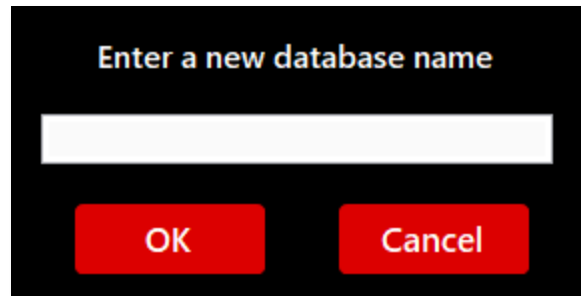

Figure 66 - Enter database name window
A prompt window will appear (Figure 66 - Enter database name window). You need to enter a new database name and click on **OK** to complete the database creation process. Clicking on the **Cancel** control will cancel the renaming of the database and close the pop-up window.
The user can rename a database. Clicking on the R control (R) under the database list triggers a pop-up window (Figure 66 - Enter database name window) to enter the new name, similar to the window of the database creation process.